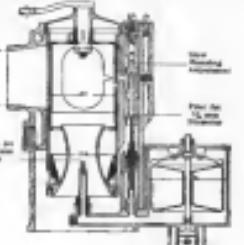

Fig. 4. BEARING OF CRANKSHAFT
The engine has a maximum power of 1,675 rpm. and the bore of the main jets 26.6 mm., while the same as in the 180-hp. Mercedes carburetors. A semi-diaphragm system of one of these carburetors is reproduced in Fig. 4 for reference.
(1) *Apparatus.* For measuring the volume-loss method, the apparatus shown in Fig. 4 and described with the cell of that type having an area of 100 cu. in. except that the hydrogen chamber is considerably larger (volume = 0.75 cu. in.). The hydrogen cylinder of the apparatus chamber is an autoclave equipped with the pressure gauge of the balloon of the hydrogen chamber through the small volume of air which defines around it. Attached to the hydrogen chamber in a ground-glass mounting tube which is connected to the rubber sleeve near the top with a glass stopper is a glass tube which passes through the rubber sleeve from the outside to the interior of the balloon. The hydrogen passes through the glass tube from the exterior to take its place. The decrease in volume of the enclosed gas is determined by the increase in volume of water in the burette. The total volume of the gas remaining in the apparatus is determined by comparison with hydrogen from the same source which had not passed through the cell. The estimation of the interference was sometime in doubt in this latter case owing